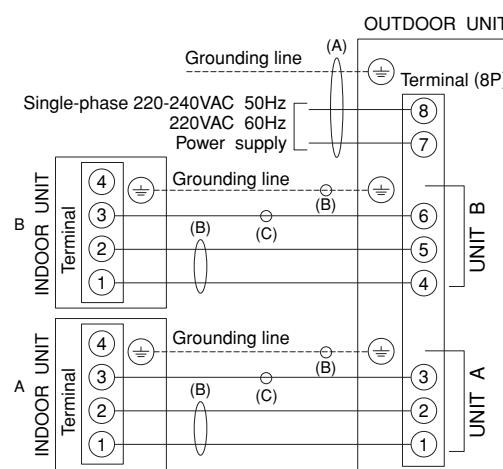

Fig. 25a
Refer to the wiring system diagram (Figs. 25a, 25b or 25c) for the meaning of (A), (B) and (C) in Table 6.